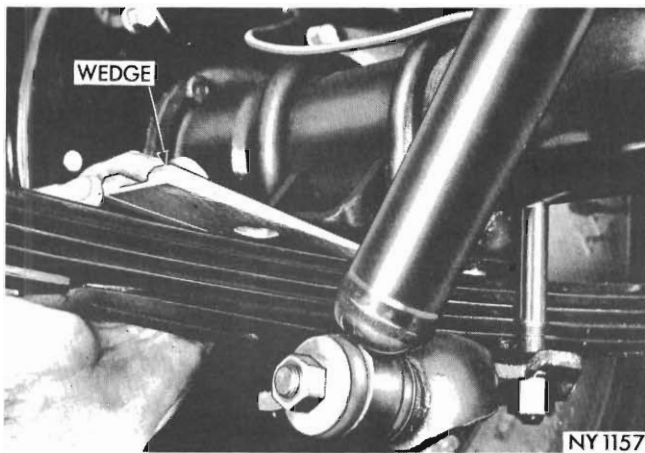

Fig. 5 - Installing tapered wedges (typical)
(6) The axle carrier nose should tilt down slightly, and the angle between the carrier and propeller shaft at the rear universal joint should be between  $1^\circ$  and  $3^\circ$ .
(7) If the rear joint angle must be adjusted, tapered wedges should be added between the rear springs and the rear axle spring plates (*Fig. 5*). Select wedges of correct degree taper, so as to obtain the specified universal joint angle. Tighten rear spring 'U' bolt nuts to 45 lbs./ft. torque.
(8) Recheck the rear joint angle, then install the rebound bumper and plate assembly on the carrier. Tighten retaining bolts to 200 lbs./in. torque.